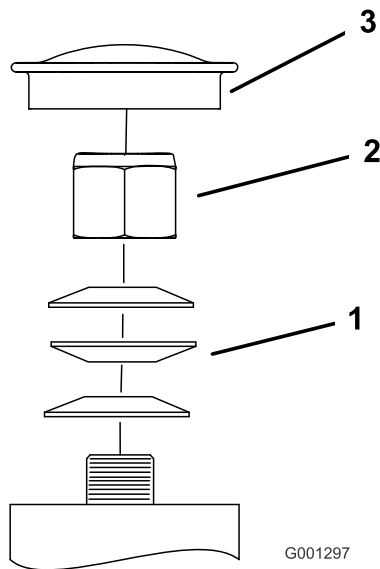

Figure 70
3. Remove the dust cap from caster and tighten lock nut (Figure 70).
4. Tighten the locknut until the spring washers are flat and then back off a 1/4 turn to properly set the pre-load on the bearings (Figure 70).
Important: Make sure the spring washers are installed correctly as shown in Figure 70.
5. Install the dust cap (Figure 70).